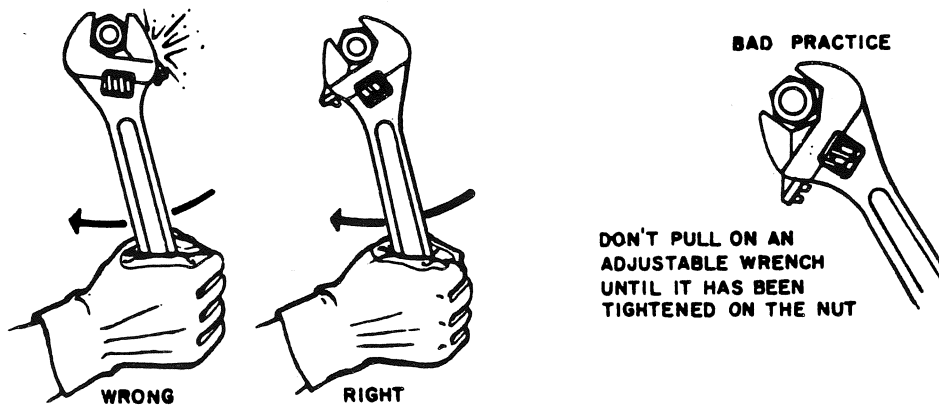

Figure 10.34. Adjustable Wrench
1. Adjustable wrenches are shaped somewhat similar to open-end wrenches but have one jaw adjustable. (Figure 10.34)
- A. Always place the wrench on the nut so that the pulling force is applied to the stationary jaw side of the handle. (Figure 10.34)
- B. After placing the wrench on the nut, tighten the adjusting knurl so that the wrench fits the nut snugly. (Figure 10.34)